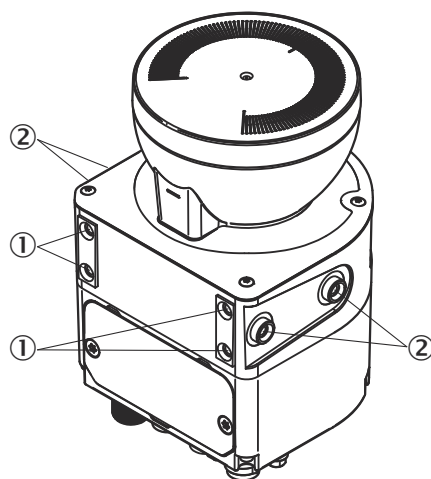

Figure 51: Mounting the safety laser scanner directly
- ① Rear M5 threaded hole
- ② Side M5 threaded hole
- Use either the rear or the side M5 threaded holes for direct mounting, see figure 51, page 83.